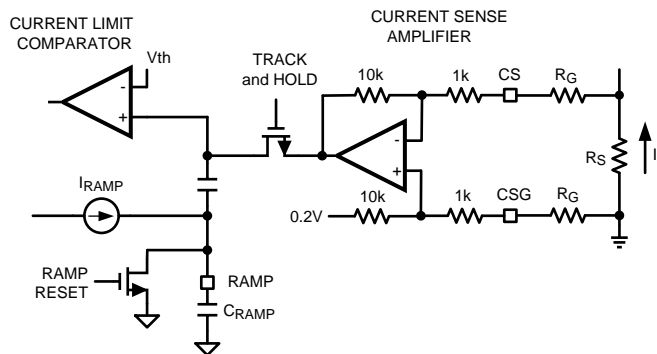

Figure 14. Current Limit and Ramp Circuit
The pedestal current sample is obtained from the current sense resistor (R_s) connected to the CS and CSG pins. It is sometimes helpful to adjust the internal current sense amplifier gain (A) to a lower value to obtain the higher current limit threshold. Adding a pair of external resistors R_G in a series with CS and CSG as shown in Figure 14 reduces the current sense amplifier gain A according to Equation 5.